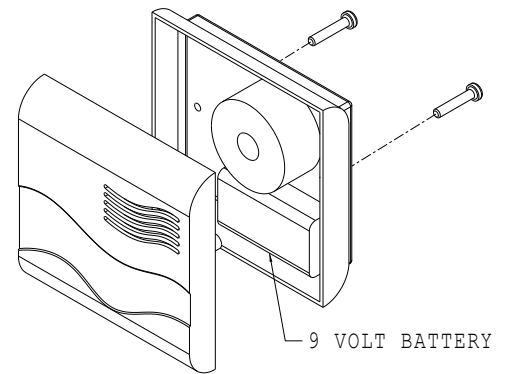

FIGURE 2
1. Slide alarm from holder and install a 9 volt battery in the alarm by removing two screws located in the back of the alarm. Reference Figure 2.